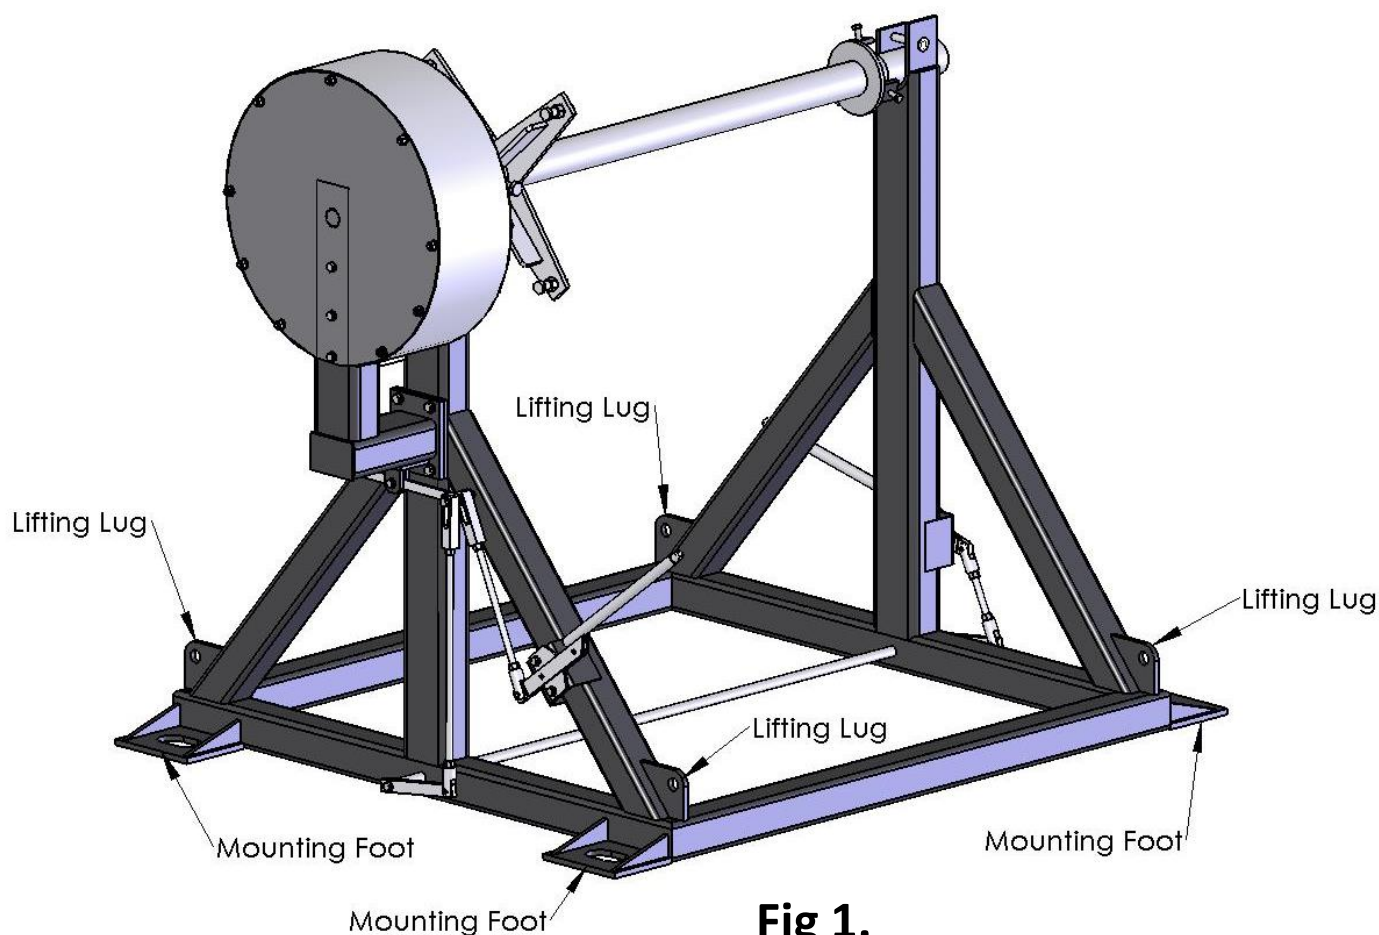

Fig 1.
1. Lift the drum cradle onto a suitable vehicle/platform, use the four lifting lug plates shown in Fig. 1:
3. Fix drum cradle to the vehicle/platform securely by locking the mounting feet (Fig. 1) to a suitable locking mechanism on the vehicle/platform